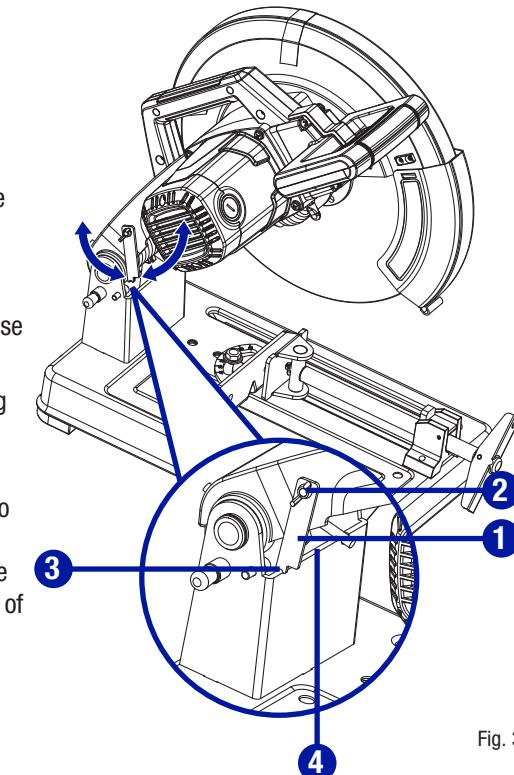

Fig. 3
**SETTING THE DEPTH STOP (Fig. 3)**